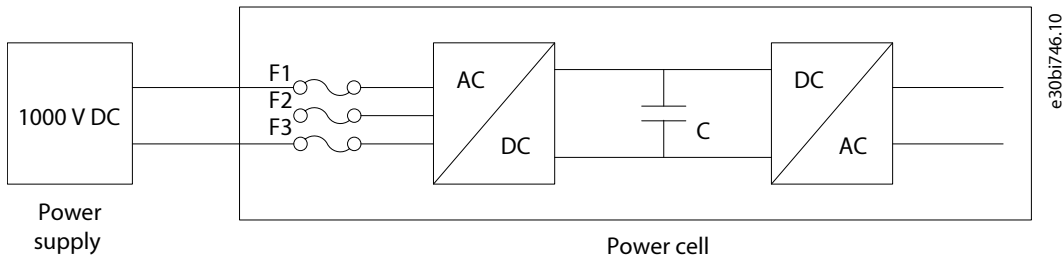

Figure 100: DC Supply Wiring Diagram
2. Connect the wires as shown in Figure 100. Connect the DC supply to any 2 of the power cell input phases.